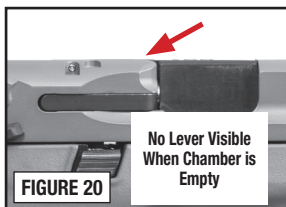

FIGURE 20
**Type 2:** Some M&P® M2.0™ pistols are equipped with a tactile loaded chamber indicator. This indicator is present on the top of the slide. When the chamber is empty, the loaded chamber indicator will be flush with the top of the slide. When the chamber is loaded, the front of the loaded chamber indicator will protrude from the top of the slide where it can be felt above the slide's surface (FIGURES 20 and 21).